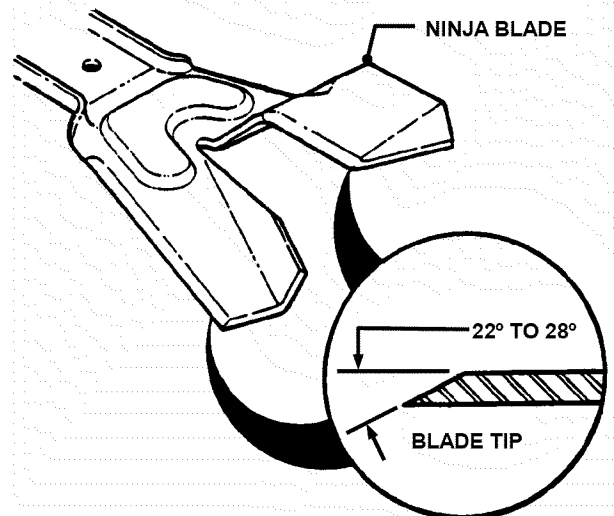

FIGURE 4.26
5. Sharpen all cutting edges of the Ninja recycling blade at an angle of 22 to 28 degrees for optimum performance. See Figure 4.26.